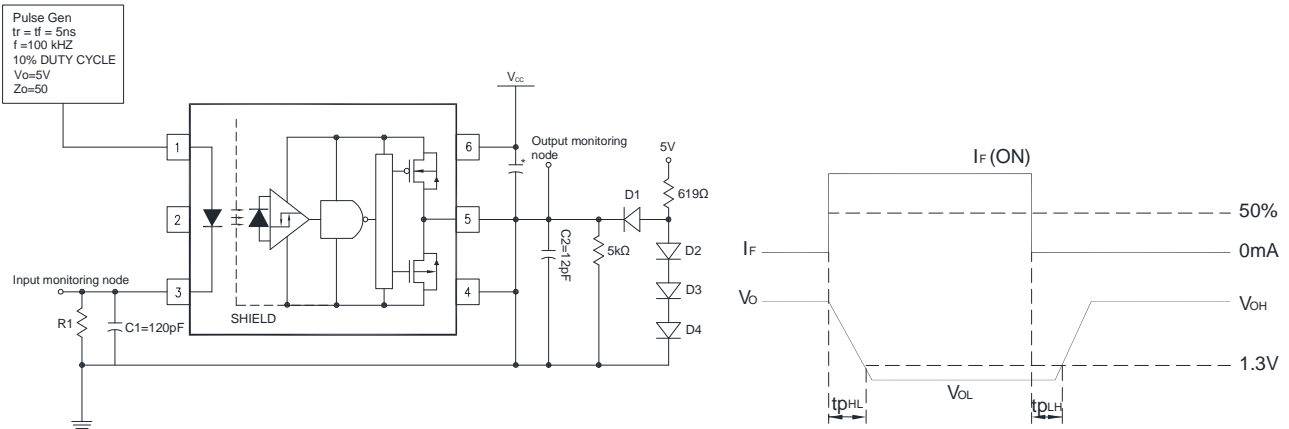

Figure 1 :  $t_r$ ,  $t_f$ ,  $t_{PLH}$  and  $t_{PHL}$  Test Circuit and Waveforms
5. The  $t_{PLH}$  propagation delay is measured from the 50% point on the trailing edge of the input pulse to the 1.3 V point on the leading edge of the output pulse. The  $t_{PHL}$  propagation delay is measured from the 50% point on the leading edge of the input pulse to the 1.3 V point on the trailing edge of the output pulse. Peaking capacitor,  $C1 = 120\text{ pF}$  must be connected as shown in Figure 1.